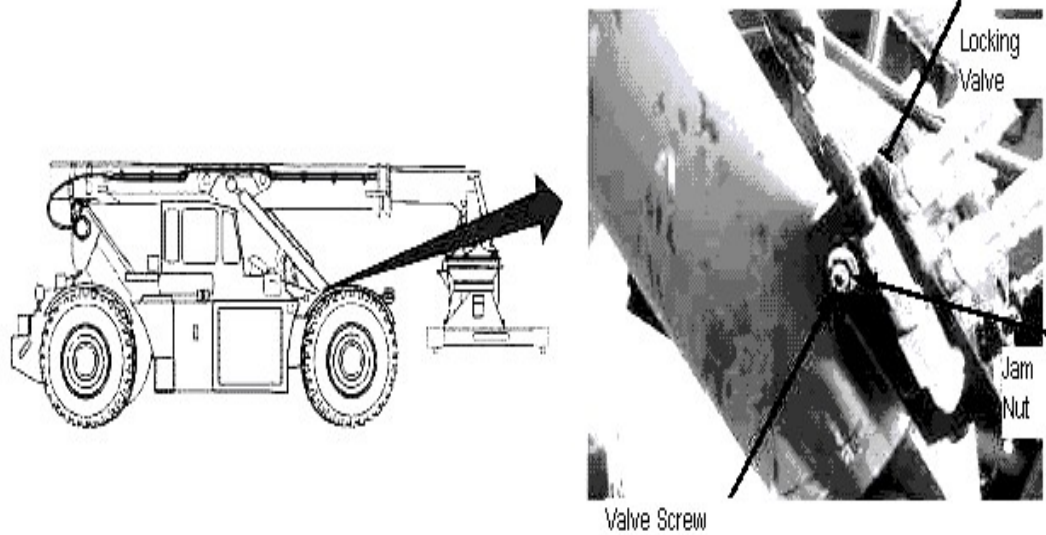

Figure 3-195
(3) Remove lower pin from dolly wheel and set aside.
o. At side of locking valve at base of each lift cylinder, loosen float valve jam nut and turn float valve screw five turns counterclockwise and retighten jam nut to prevent loss (see Figure 3-195).